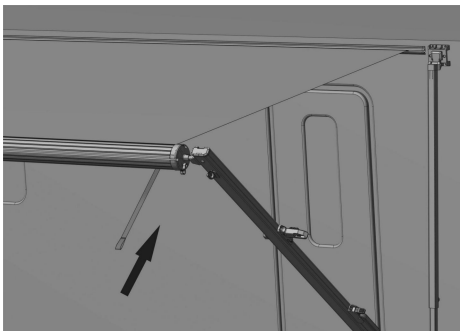

Figure D17
4.2.6 Slowly release the recycling reel until it is fully retracted. (At the end, the elbow on one side of the pull wand can be used to insert the roller strap for auxiliary operation) . (Figure D17)